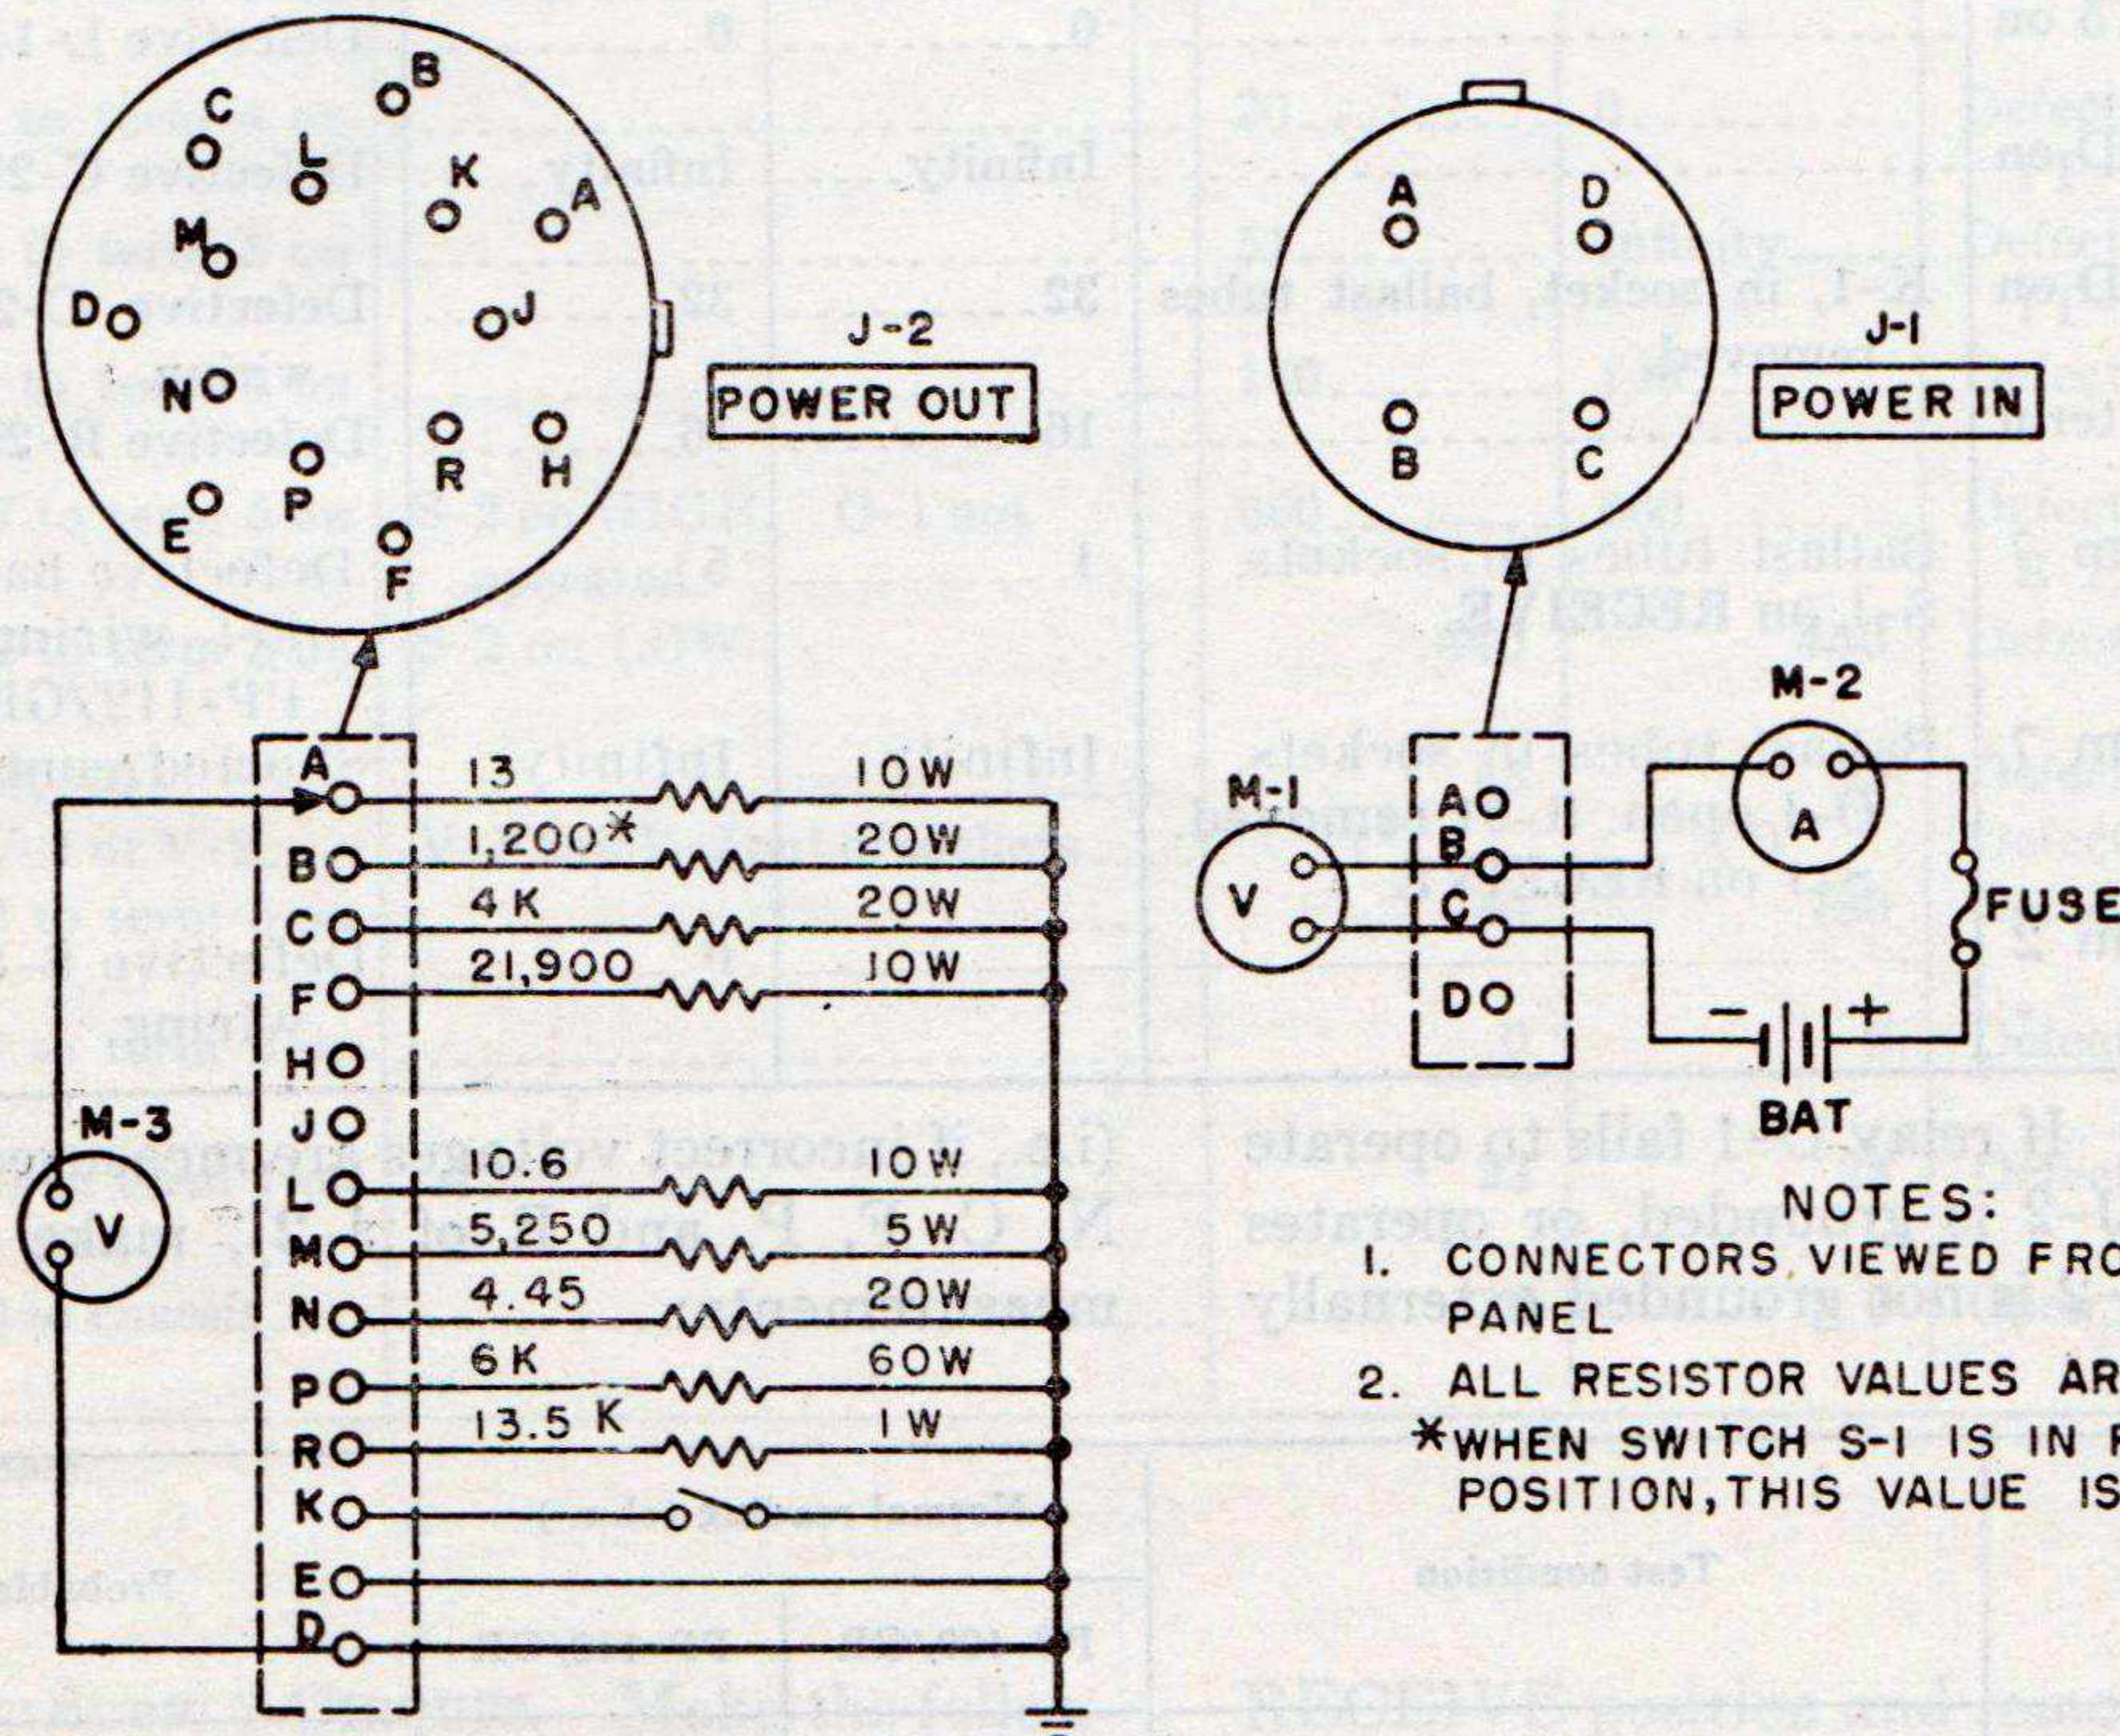

Figure 14. Power Supplies PP-109/GR and PP-112/GR, operational test set-up.
b. Refer to the operational test set-up shown in figure 14 and proceed as follows, using the test equipment listed in paragraph 22. Insert all plug-in parts.
- (1) Select a storage battery having the required voltage (12 and 24 volts for Power Supplies PP-109/GR and PP-112/GR, respectively). Turn switch S-1 to OFF position.
- (2) Connect the negative battery lead to pin C of connector J-1.
- (3) Connect the positive battery lead in series with the fuse and the ammeter to pin B of J-1. The rating of the fuse, the ammeter scale, and the battery voltage to be used should be as listed below. (Use Multimeter TS-352/U, Voltammeter I-50, or an ammeter with equivalent ranges.)
- (4) Connect a strap between terminals E and D of J-2.
- (5) Connect an SPST switch between K and D of J-2.
- (6) Connect a load resistor between terminal D and each of the other terminals of J-2, as indicated in figure 14. Be sure that correct load resistors are connected for the particular condition of operation. A properly loaded and aligned Receiver-Transmitter RT-66/GRC, RT-67/GRC, or RT-68/GRC may be used in place of the load resistors.
- (7) Turn switch S-1 to the RECEIVE position and turn switch S-2 to the HIGH position. Using Electronic Multimeter TS-505/U, measure the input and output voltages across each of the load resistors as indicated by meters M-1 and M-3 in figure 14. Also note the ammeter reading. The required readings are shown in the following tables. For this check, keep the switch between terminals K and D of J-2 open.